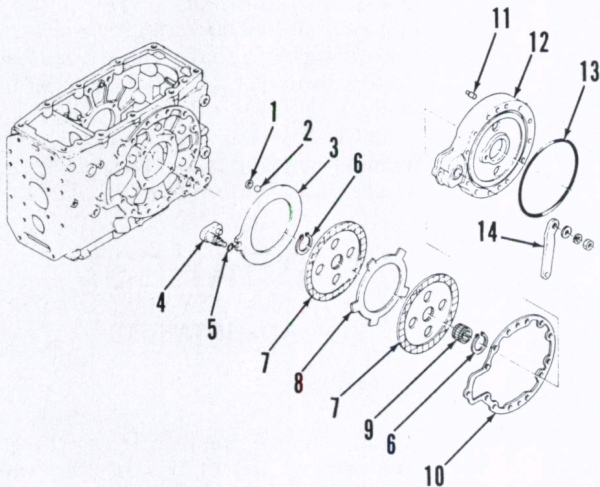

Fig. 140—Adjust brake pedal linkage to obtain approximately 30 mm (1-3/16 inches) pedal free travel.
**105.** Brake pedal free travel, measured at top of pedals (Fig. 140), should be approximately 30 mm (1-3/16 inches). Difference between right and left pedal free play must not exceed 5 mm (3/16 inch).